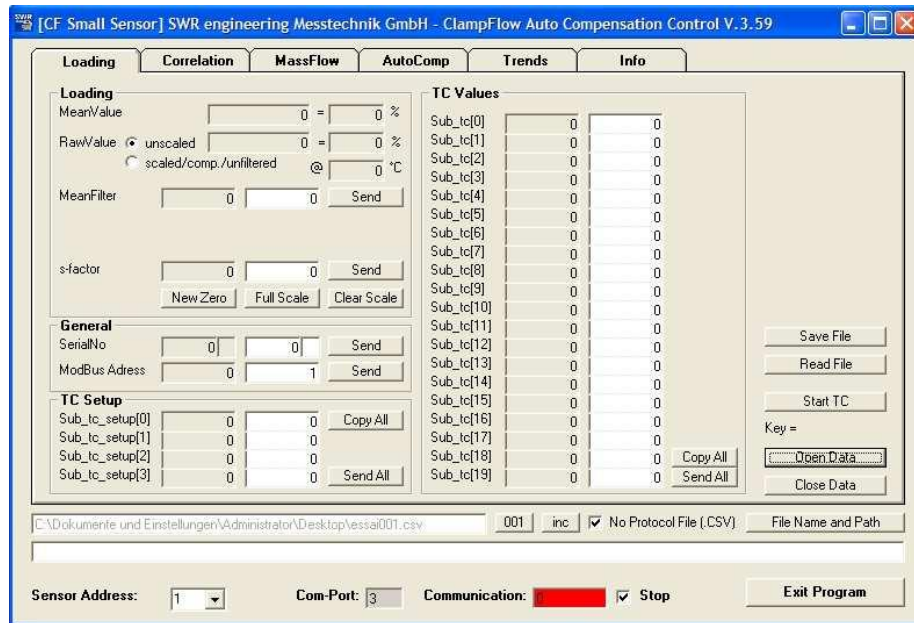

Fig. 8: software opened in the Loading window with all additional data.
- Open Data press this button to have access to additional settings (See Fig. 8).